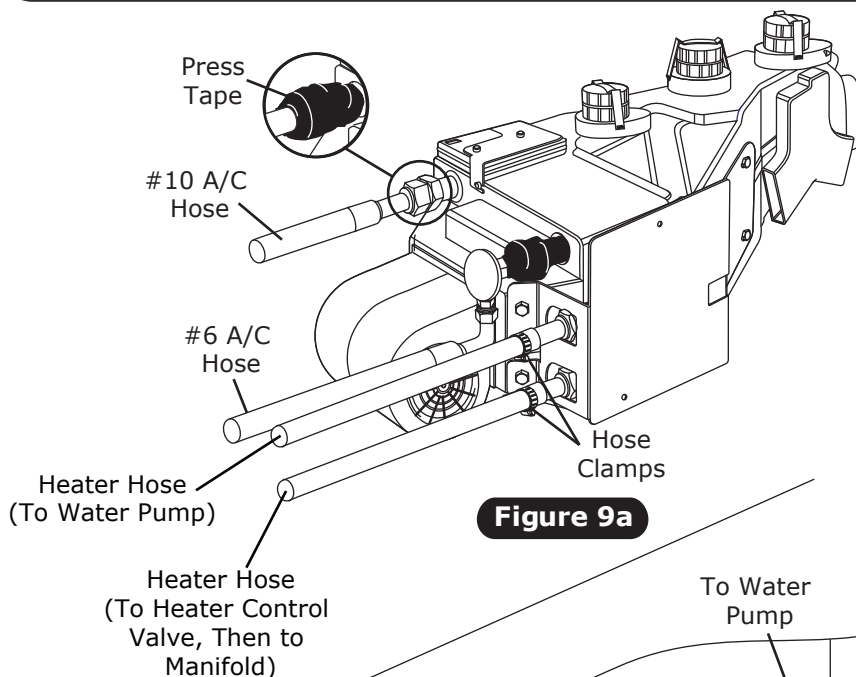
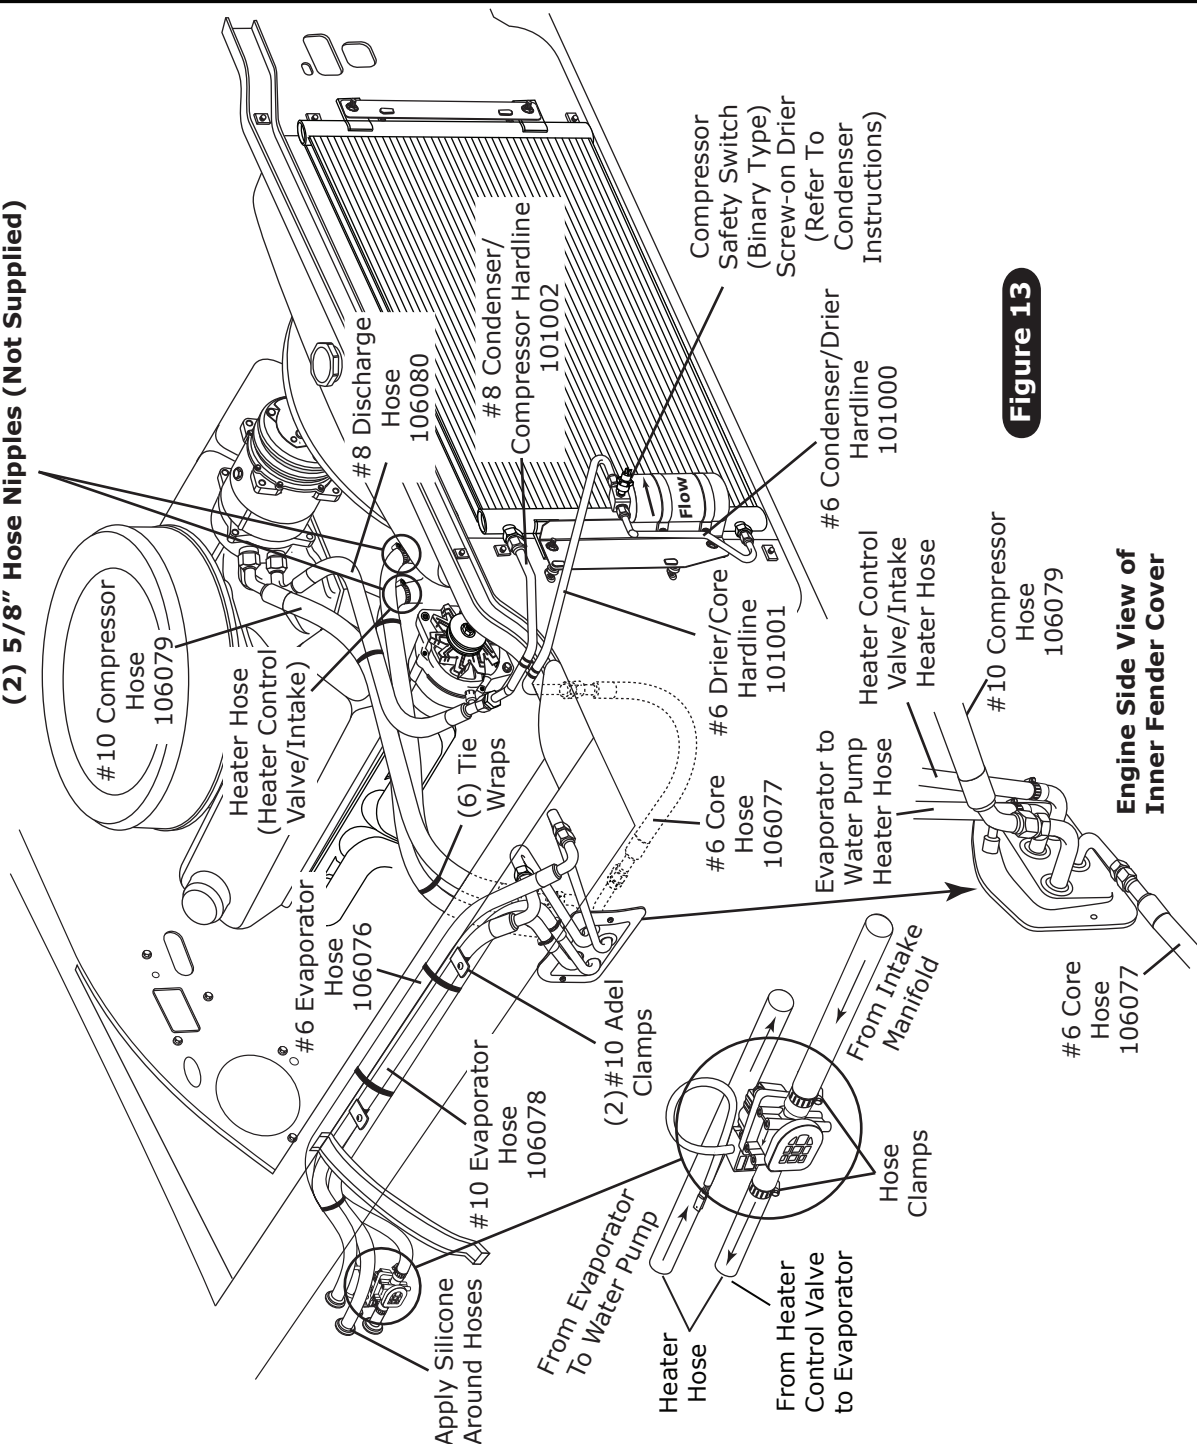

Figure 9a
Figure 13
1. Install A/C and heater hoses (See Figure 9a, below).
2. Locate the #10 compressor A/C hose. Lubricate (2) #10 O-rings and connect the 45° fitting to the #10 suction port on the compressor. Route the 45° female fitting with R134a service port to the #10 hardline on the inner fender cap. Lubricate (2) #10 O-rings and connect the 90° female fitting in the wheel well to the #10 hardline on the inner fender cap. Then route the straight female fitting from the inner fender cap to the #10 fitting on the evaporator (See Figure 9a, Page 11, and Figure 13, Page 14). Tighten each fitting connection as shown in Figure 12, above.
3. Locate the #6 evaporator A/C hose. Lubricate (2) #6 O-rings and connect the straight female fitting to the #6 hardline coming over the core support from the drier. Route the straight female fitting to the #6 hardline on the inner fender cap. Lubricate (2) #6 O-rings and connect the 90° female fitting in the wheel well to the #6 hardline on the inner fender cap. Then route the 90° female fitting from the inner fender cap to the #6 fitting on the evaporator (See Figure 9a, Page 11, and Figure 13, Page 14). Tighten each fitting connection as shown in Figure 12, above.
1. In engine compartment, route a piece of heater hose from the water pump to the top heater fitting on the inner fender cap (See Figure 13, below). Secure using hose clamps.
2. In engine compartment, route a piece of heater hose from the intake to the bottom heater fitting on the inner fender cap (See Figure 13, below). Secure using hose clamps.
3. In wheel well, route a piece of heater hose from the top heater fitting on the inner fender cap to the top heater fitting of the heater core as shown in Figure 9a, Page 11, and Figure 13, below. Secure using hose clamps.
4. In wheel well, route a piece of heater hose from the bottom heater fitting on the inner fender cap to the bottom heater fitting of the heater core as shown in Figure 9a, Page 11, and Figure 13, below. Secure using hose clamps. **NOTE: Install heater control valve in line with intake manifold (pressure side) heater hose, and secure using hose clamps as shown in Figure 13, below. Also note proper flow direction.**
5. Apply a bead of silicone around each hose where it passes through the grommet on the firewall (See Figure 13, below).